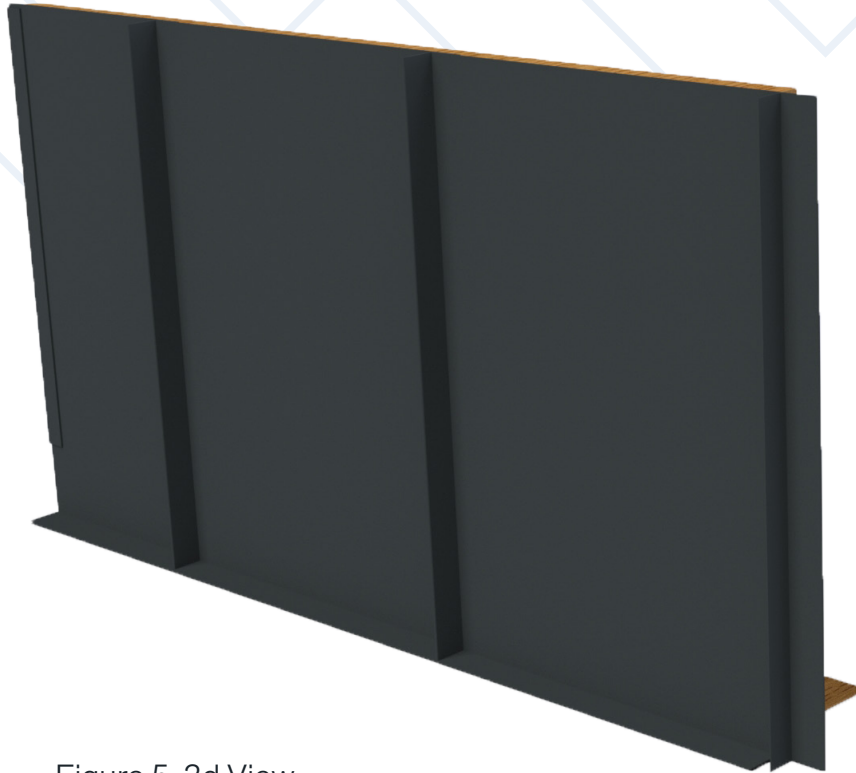

Figure 5. 3d View
5. Consecutive lengths of the KYTUN Standing Seam should then be fixed as outlined above. The female end sliding over the male end and each piece fixed as per Figure 5.